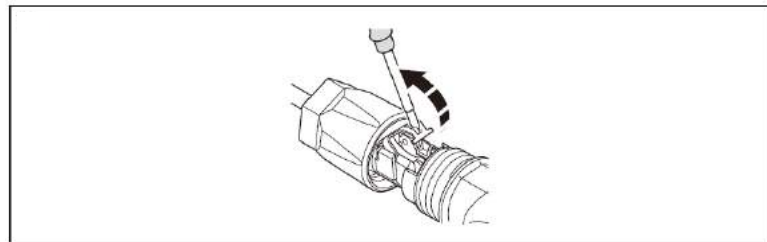

Figure 5-10
- 3) Open the spring in the plug using a screwdriver (Figure 5-10).